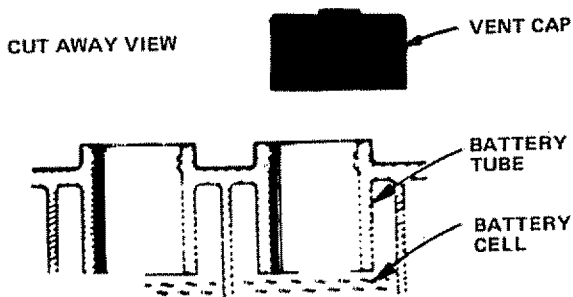

FIGURE 1
- a. Fill Battery with electrolyte to bottoms of tubes in cells (Fig. 1) NOTE: DO NOT OVERFILL. OVERFILLING WILL RESULT IN DAMAGE TO TRACTOR.